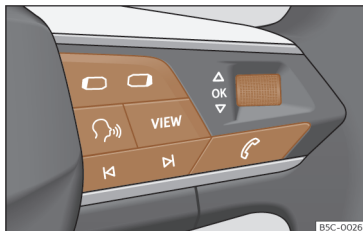

Fig. 65 Right side of the multifunction steering wheel: buttons for using the instrument cluster's menus and information displays (depending on versions).
As long as a priority 1» page 75 warning is active, it will not be possible to access any menu. Some warnings can be confirmed and hidden with the button **OK** of the multifunction steering wheel» **Fig. 65**.
- If a message or vehicle symbol is displayed, press the button **OK**» **Fig. 65**; if necessary, several times.
- To change menus, use buttons  or  » **Fig. 65**.
- To open the menu or the information displayed, press the button **OK**» **Fig. 65** or wait a few seconds until the menu or the informative display opens automatically.
- In the menu displayed, turn the right thumbwheel of the multifunction steering wheel» **Fig. 65** until the desired option of the menu is highlighted. The option appears framed.
- Press the button **OK**» **Fig. 65** to make the required modifications. A mark indicates that the system or function is activated.
Press the button  or  » **Fig. 65**.